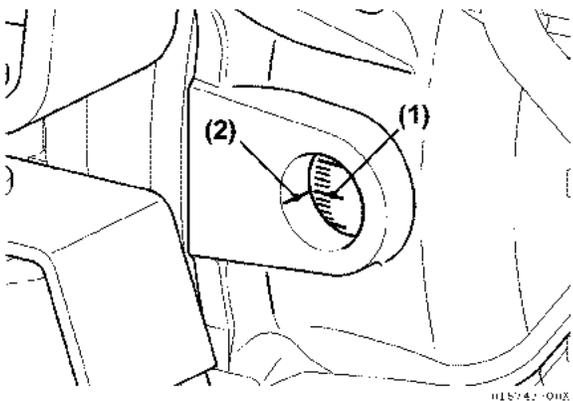

Figure 6-62
2. Rotate the flywheel until the target timing mark (**Figure 6-62, (1)**) and the timing reference mark (**Figure 6-62, (2)**) on the flywheel housing are aligned. **NOTICE:** Do not rotate the crankshaft during the remainder of this procedure.